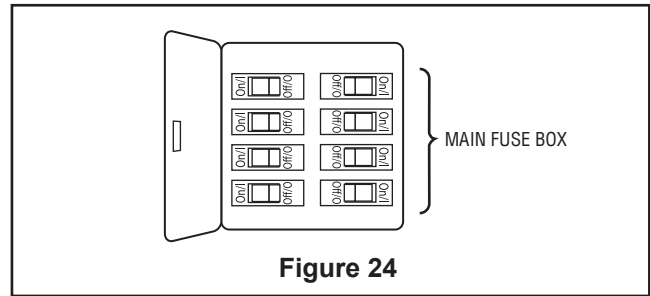

Figure 24
1. Restore electrical power to the outlet box by turning the electricity on at the main fuse box (Figure 24).